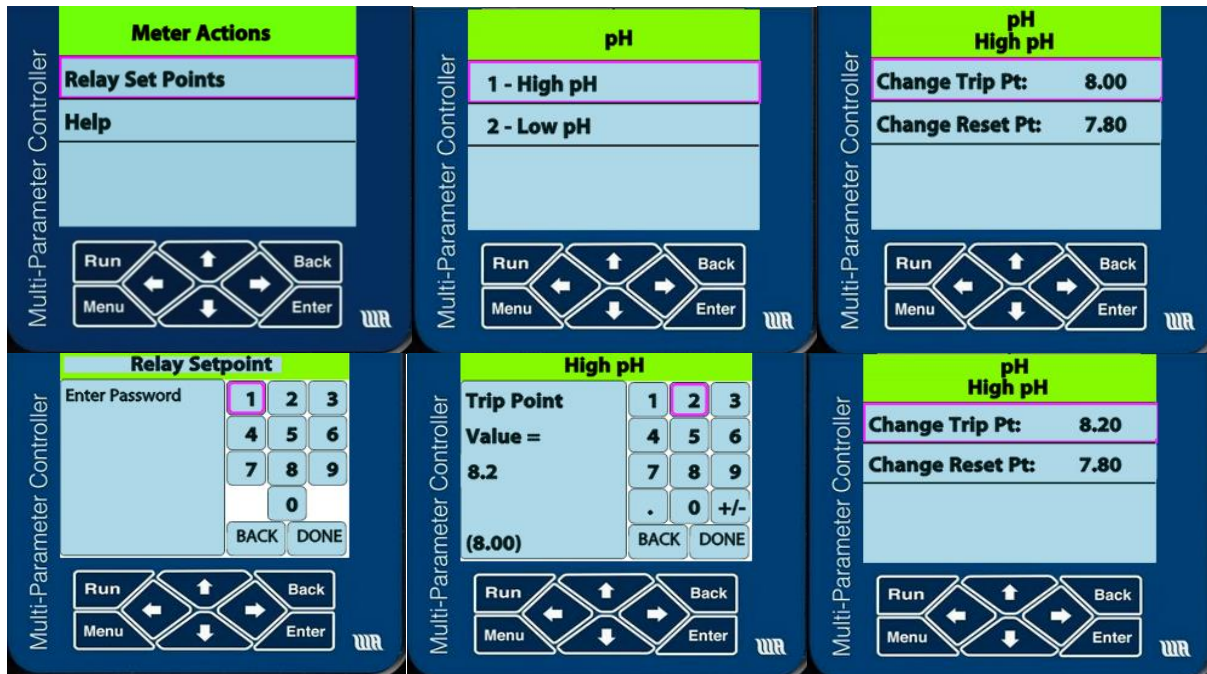

Figure 3-6 – The sequence of screens for changing relay set points from the front panel.
3. The next screen shows the relays that have been set. In Figure 3-6 they are "High pH" and "Low pH." Select the relay you want to modify and click on **Enter**.